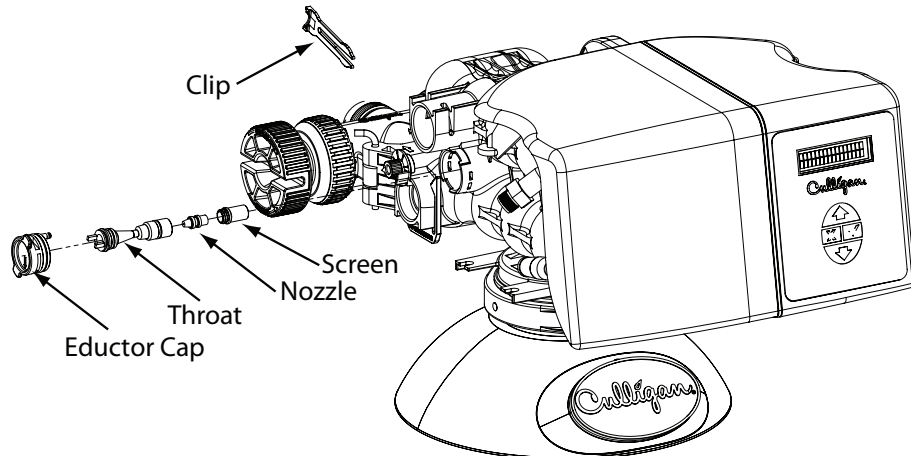
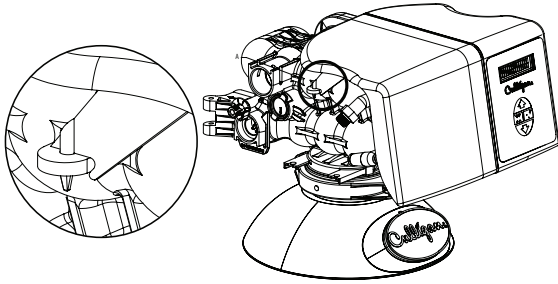
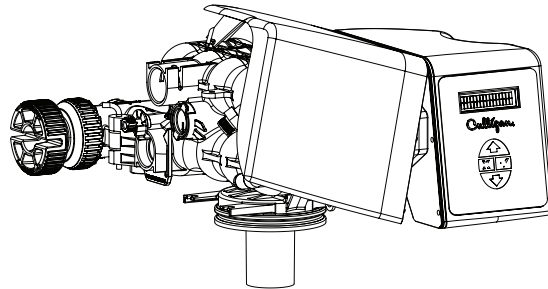
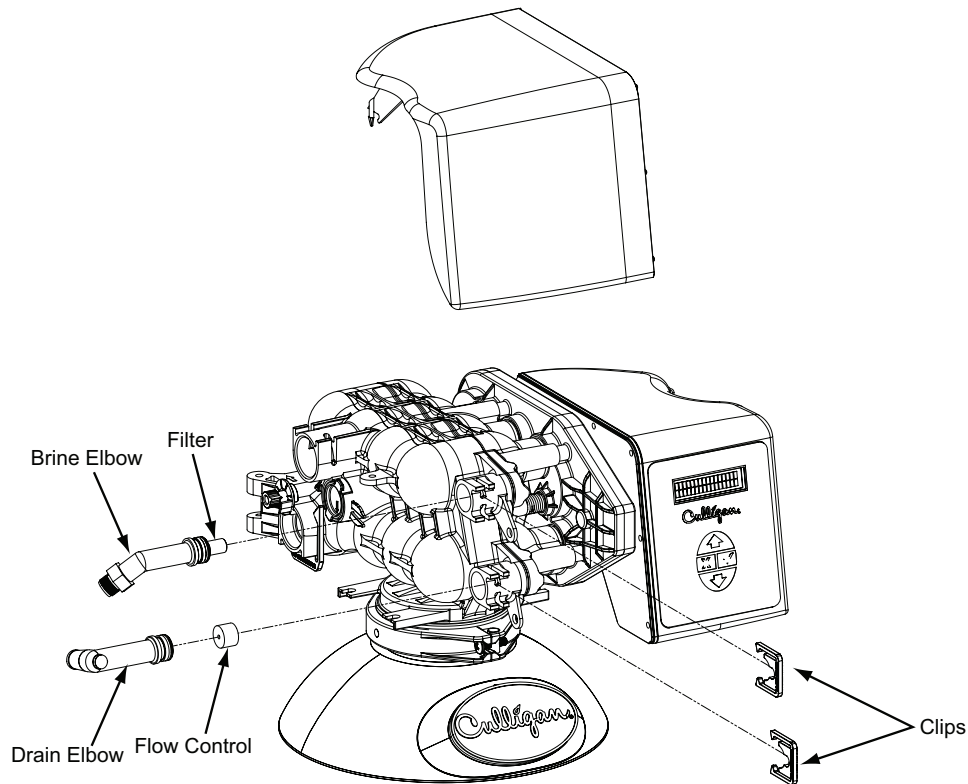

Figure 6. Removing the eductor nozzle and throat.
Figure 7. HE softener cover fastener clip.
Figure 8. Removing the HE softener cover.
Figure 9. Removing the drain elbow and brine elbow.
Refer to Figure 6 through Figure 9 and instructions below for changing the backwash flow control, eductor nozzle, and eductor throat.
Refer to Figure 6 and the instructions below when changing the eductor nozzle and throat.
Refer to Figure 7 through Figure 9, Table 2, and instructions below to replace the backwash flow control.
1. Remove the cover by releasing the cover fastener from the control valve. See Figure 7 and Figure 8.
2. Remove the drain clip and pull the drain elbow straight off. See Figure 9.